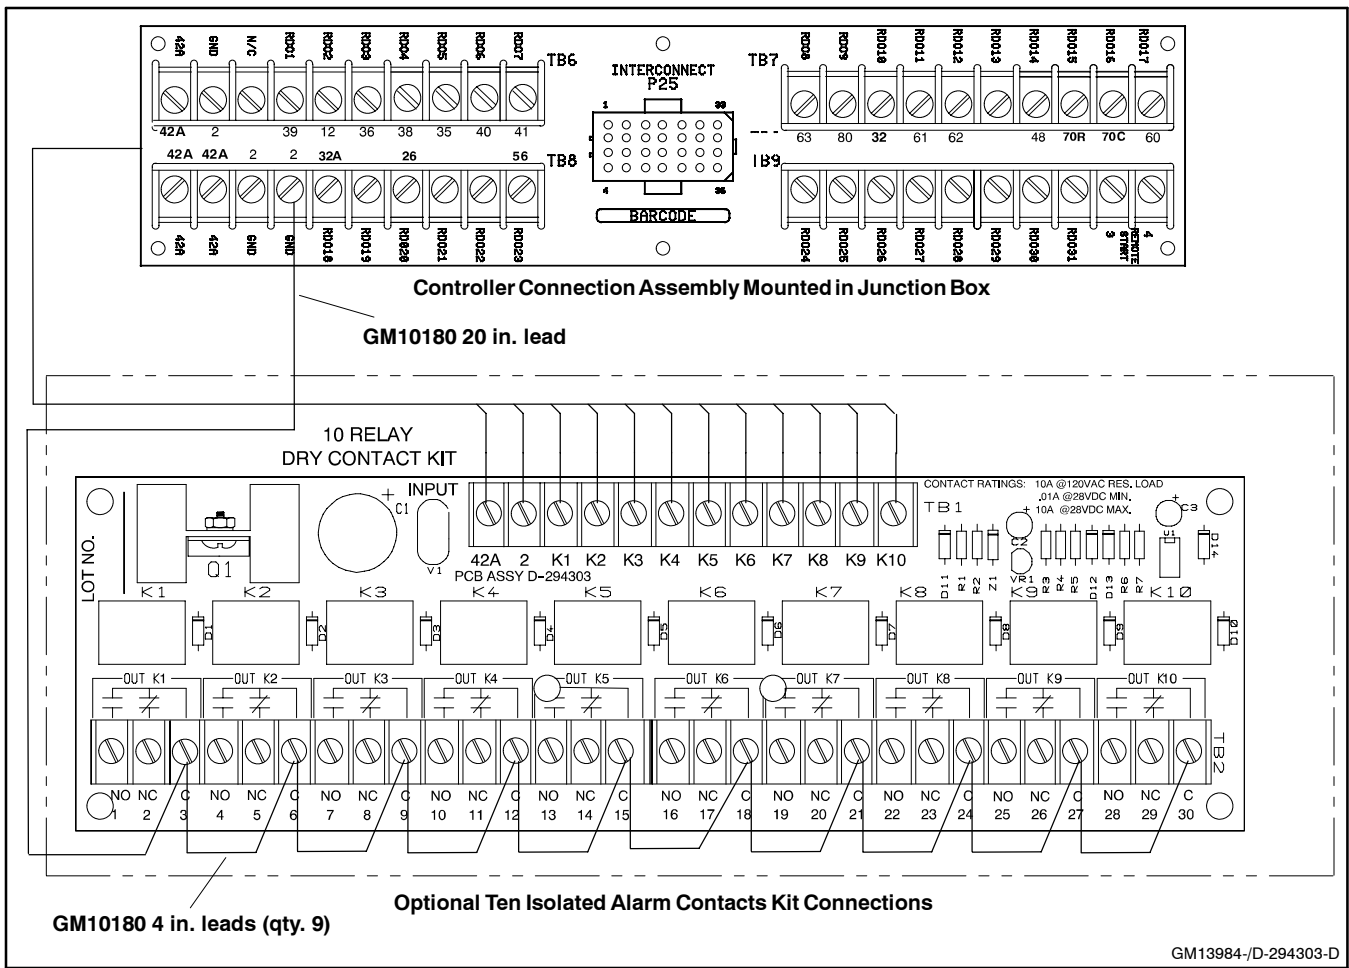

Figure 12 Wiring Harness GM10180 Connections for DC Power Supply
GM28618-KP11/-KP11S kits only (450-2000 kW). Install the 10-lead dry contact wiring harness (GM10180) to electrically connect the relay common (C) terminals together when using a DC power supply. See Figure 12. Remove the 10-lead dry contact wiring harness (GM10180) when applying an AC power supply.